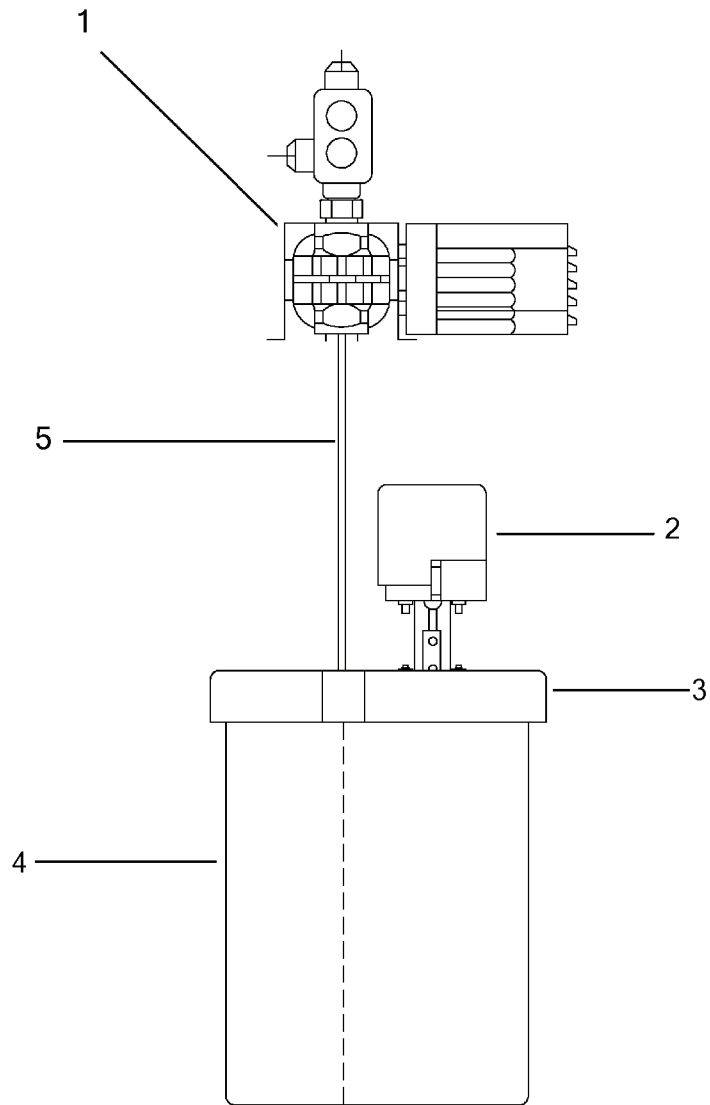

Figure 2-17. Chemical Feed Treatment Assembly.
2-24. Chemical Feed Treatment Assembly. (Figures 2-17, 2-18 and 2-19)
To service the chemical feed treatment assembly (Figure 2-17) with AMEROYAL, proceed as follows:
- a. Mix 7 ounces of AMEROYAL in 24 gallons of freshwater in the chemical cleaning tank (4, Figure 2-17).
- b. Adjust the feed rate of the chemical feed injection pump (1) to one gallon per hour (GPH). Pump setting should be approximately at the 70 to 80 percent dial reading.
- b. Remove chemical feed injection pump suction hose (5, Figure 2-17) from tank lid (3).
- c. Remove the tank top cover (3) from the tank (4).
- d. Remove the chemical agitator assembly (2, Figure 2-17) from the tank top cover (3) by unscrewing the four wing nuts (7, Figure 2-19) from the four bolts (5).
- e. Remove tank (4, Figure 2-17) and tank top cover (3) from chemical feed treatment cabinet.
- a. Replace the tank (4, Figure 2-17) and tank top cover (3) in the chemical feed treatment cabinet outlet.
- c. Replace tank top cover (3, Figure 2-17) onto tank (4).
- d. Replace chemical feed injection pump suction hose (5).